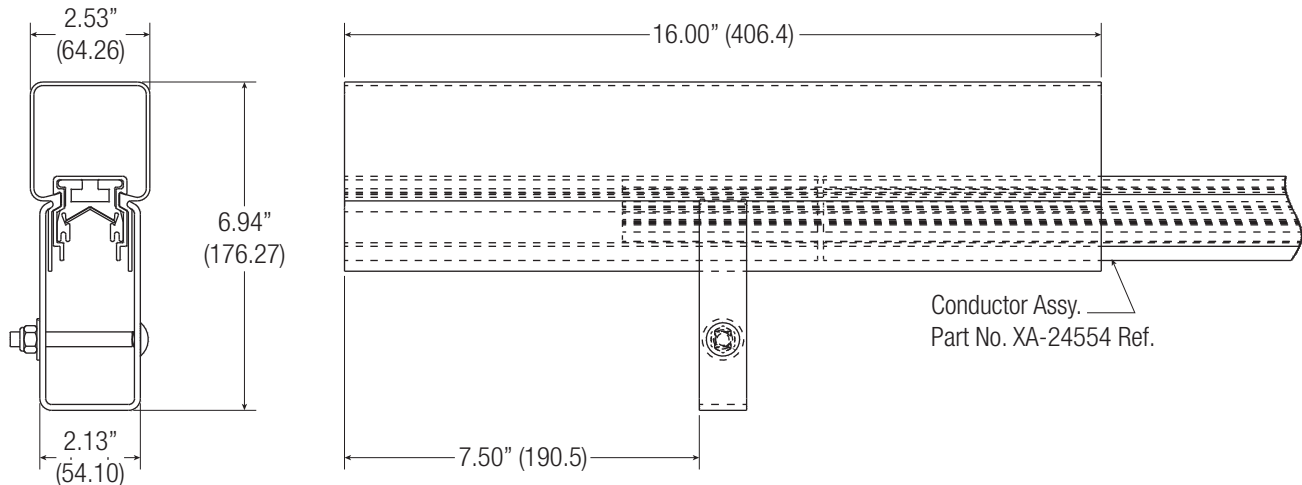

Figure 16-1
- A reference drawing of a high heat end cover is shown in **Figure 16-1**.